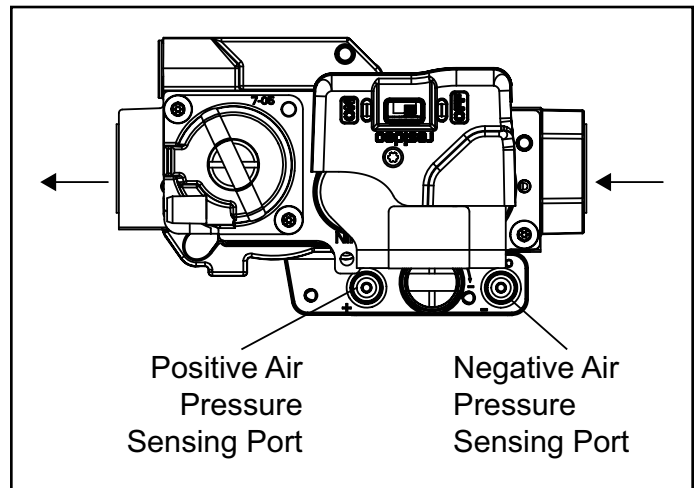

Figure 7. Gas Valve
3. Slide the gas valve switch to the “ON” position (see Figure 7).
2. Slide the gas valve switch to the “OFF” position (see Figure 7).
- a. Slide the gas valve switch to the "OFF" position (see Figure 7).